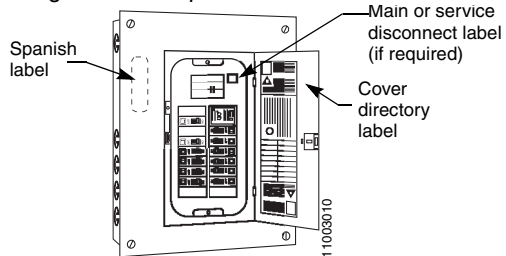

Figure 9: Label Locations
2. Attach the Spanish translation label, if supplied with the load center, to the rear of the cover. See Figure 9.